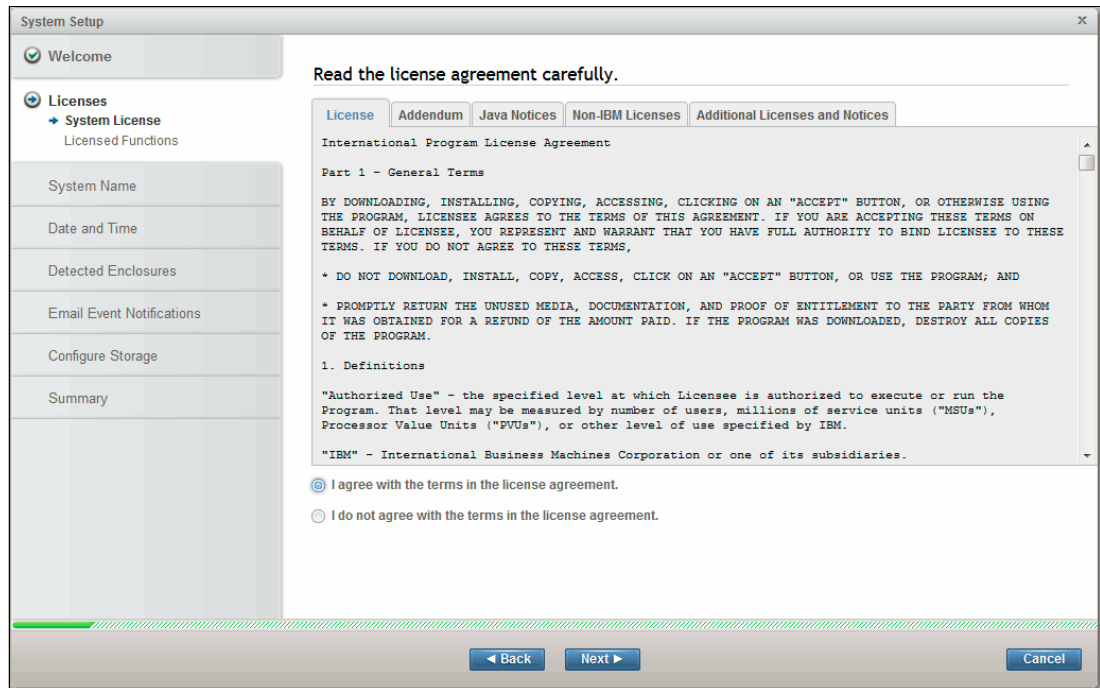

Figure 5-11 License agreement
4. Next, you must read and accept the License agreement in Figure 5-11. Click **Next**.